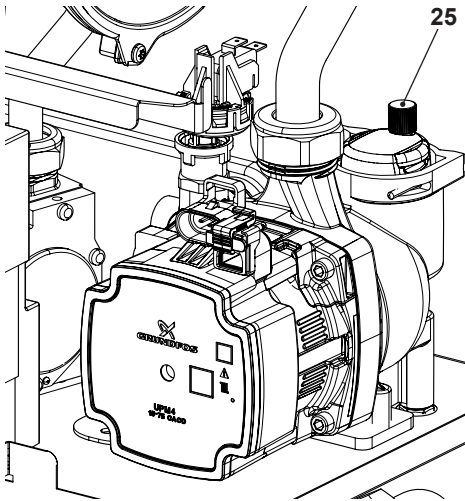

Fig. 7.2
- Loosen the cap on the automatic air purger valve 25 in Fig. 7.2 and leave open permanently.